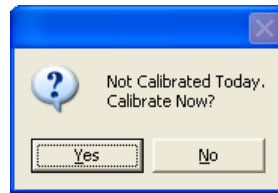
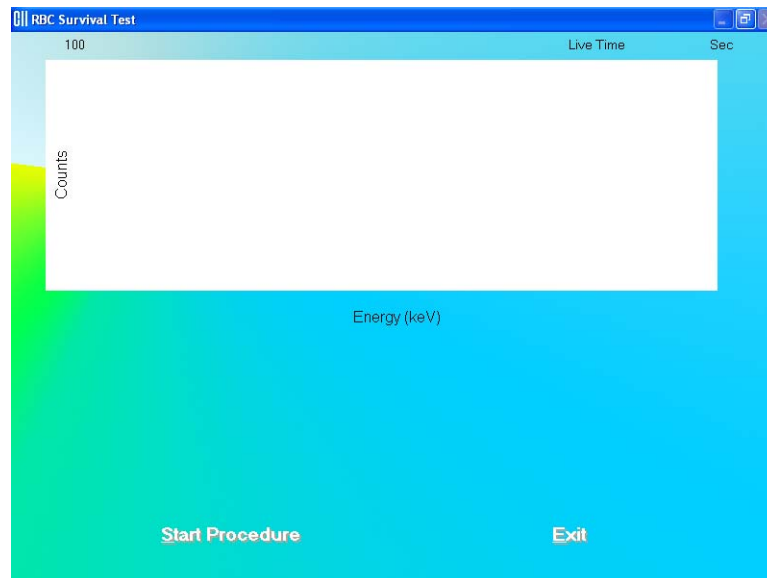

Figure 10-72
Figure 10-73
2. To begin the measurements, click the  button or press *Alt+C*. The screen appears as shown in Figure 10-73.
**Note:** If calibration has not been performed, you will be prompted with the screen shown in Figure 10-72. After the calibration is complete, the program will return to the Schilling Test measurement screen shown in Figure 10-73.
To abort the procedure, click the  button or press the *Y* key. Collected data will be discarded and the screen will return to the RBC Survival Test measurement screen (Figure 10-73). To resume the test, click the  button or press the *N* key.